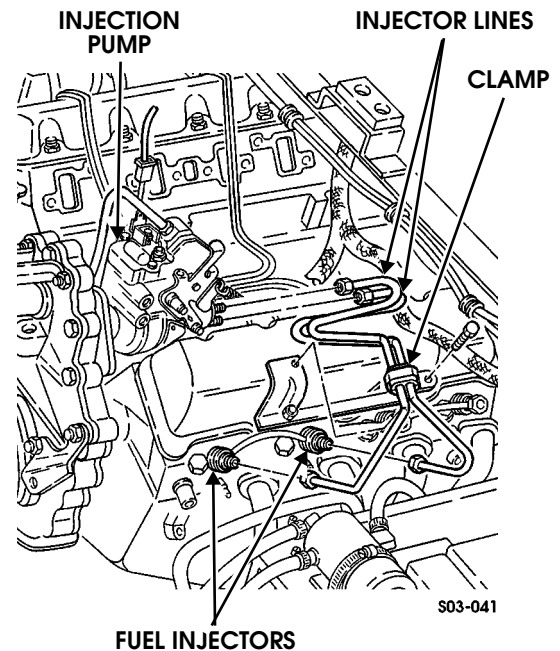

Figure 3-55: Fuel Injection Line Routing (Typical)
2. Disconnect injection lines at injectors (Figure 3-55).
1. Install clamps on injection lines (Figure 3-55).